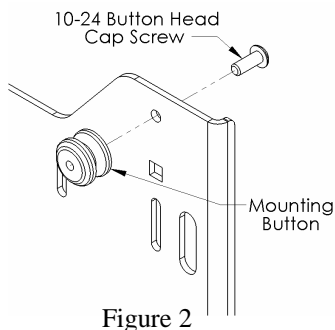
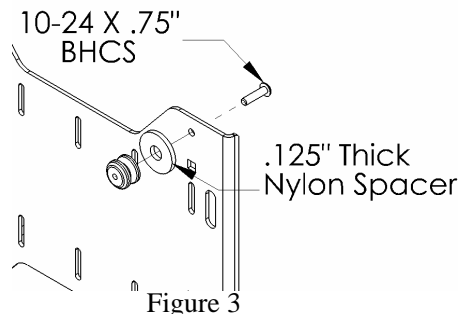
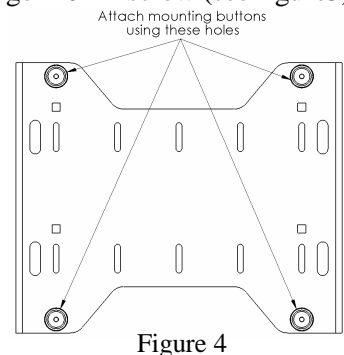

Figure 2
Figure 3
Figure 4
1. Using a 10-24 button head cap screw inserted from back side of bracket, secure mounting button, with chamfered hole of mounting button (larger surface) facing bracket, bracket (four places) (see Figure 2 & Figure4). If extra clearance is needed use the .125" thick spacer and longer 10-24 screw (see figure3).